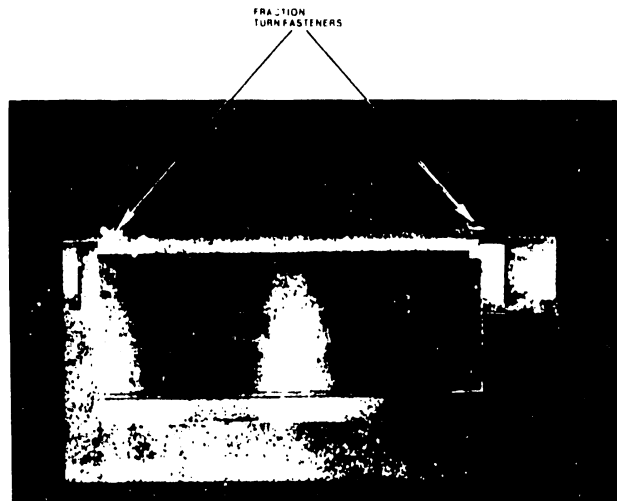

FIGURE 12
10. Install the new PC card cage cover (figure 12). Be sure there is good mechanical contact between the card cage cover and the ground plate.